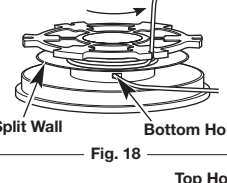
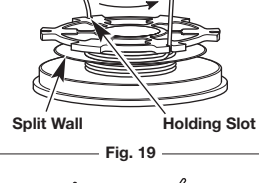

Fig. 18
Fig. 19
3. Insert the end of the other line into the bottom hole in the inner reel (Fig. 18). Wind the line tightly in the direction shown on the bottom of the inner reel until about 3 to 9 inches (75 to 225 mm) of line remains. Keep the line below the split wall. Insert the 3 to 9-inch section into the opposite .095 holding slot (Fig. 19).